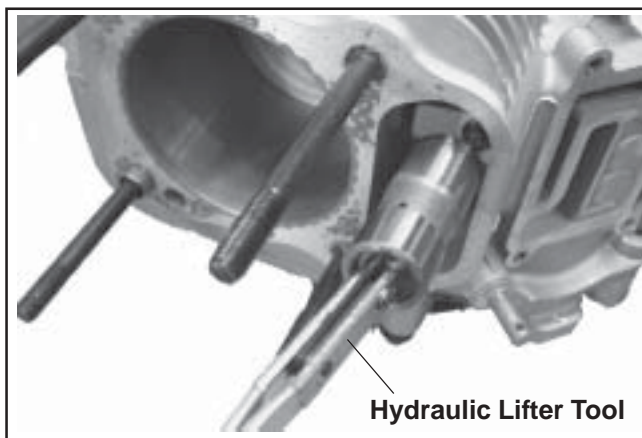

Figure 9-44. Removing Hydraulic Lifters.
4. Remove the lifters from the lifter bores. Use a hydraulic lifter tool. Do not use a magnet to remove lifters. Mark the lifters by location, as either intake or exhaust, and cylinder 1 or 2. Hydraulic lifters should always be reinstalled in the same position. See Figure 9-44.